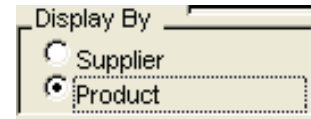

Figure 7-6—Display options
3. Click on the Product field in the Display By area of the Shipment Summary report screen (see Figure 7-6) to create a report grouped by products.